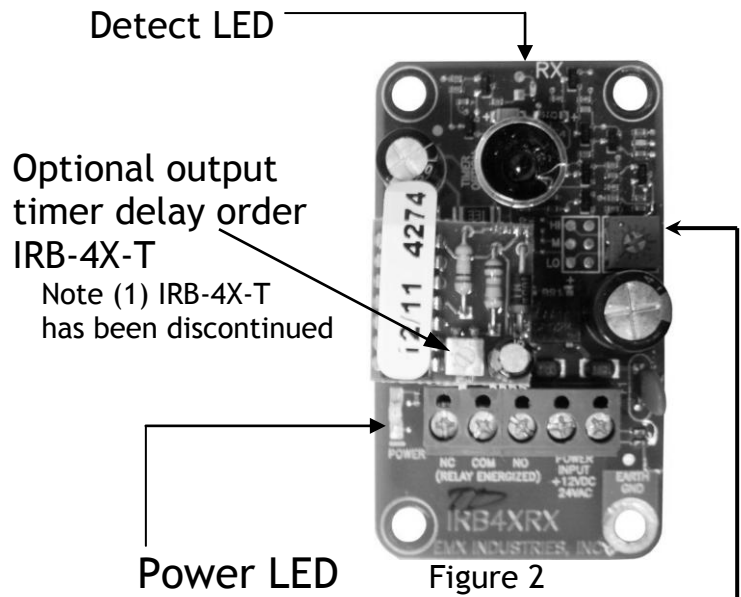

Figure 2
Sensitivity	Continuously adjustable single turn potentiometer figure 2 (1)IRB-4X-T has a 0 – 15 second relay timer to extend the relay output time figure 2
IRB-4X Receiver connections (figure 2)